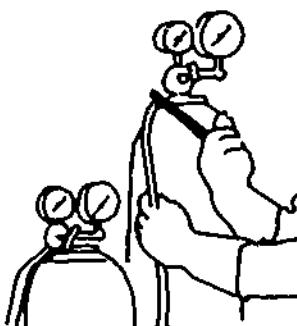

Figure 18-6. Attaching Hose
c) Attach the hose to the regulators. Be sure that all connections are clean and gas-tight (Figure 18-6).